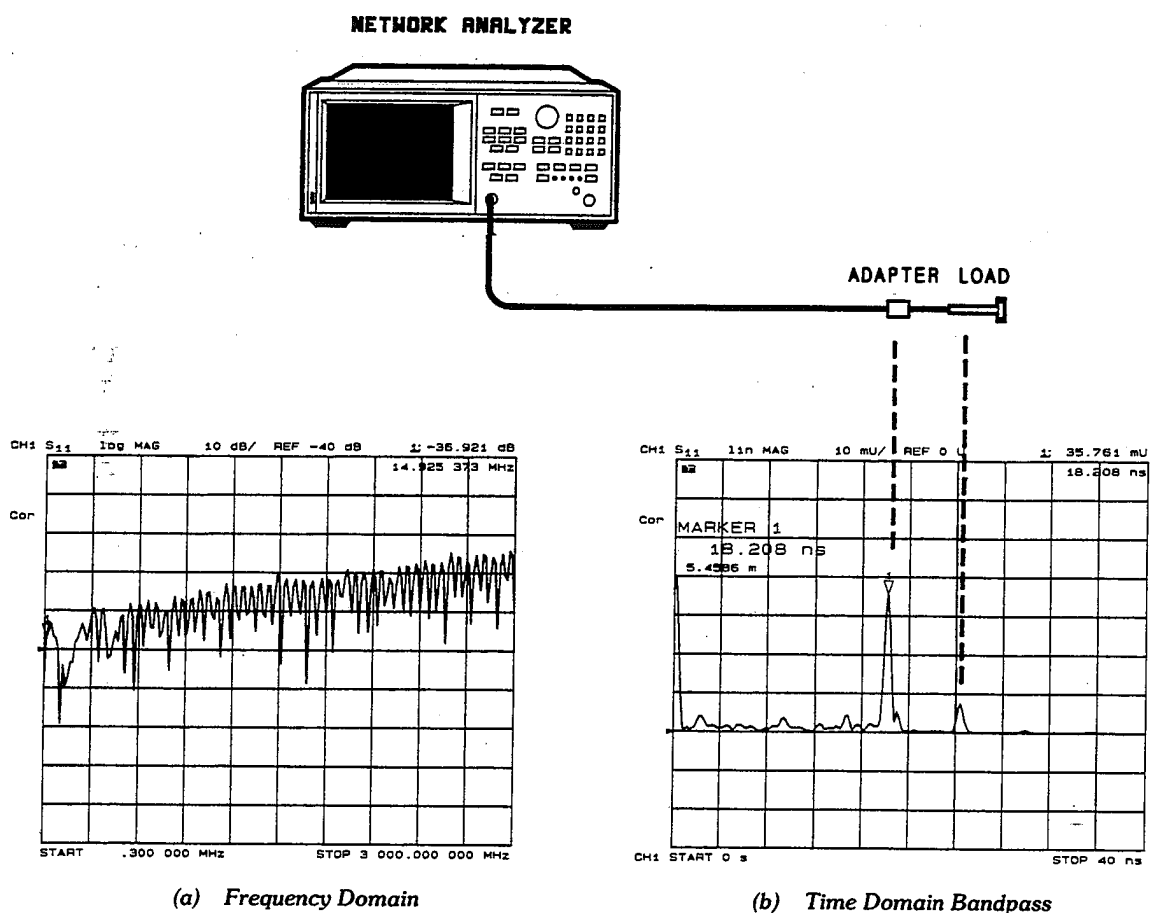

Figure 10-26. A Reflection Measurement of Two Cables
2. Connect one or more lengths of cable, with adapters between cable sections, as shown at the top of Figure 10-26.
Figure 10-26 shows typical frequency and time domain responses of a reflection measurement of two sections of cable.
**Interpreting the Bandpass Reflection Response Horizontal Axis.** In bandpass reflection measurements, the horizontal axis represents the time it takes for an impulse launched at the test port to reach a discontinuity and return to the test port (the two-way travel time). In Figure 10-26, each connector is a discontinuity.